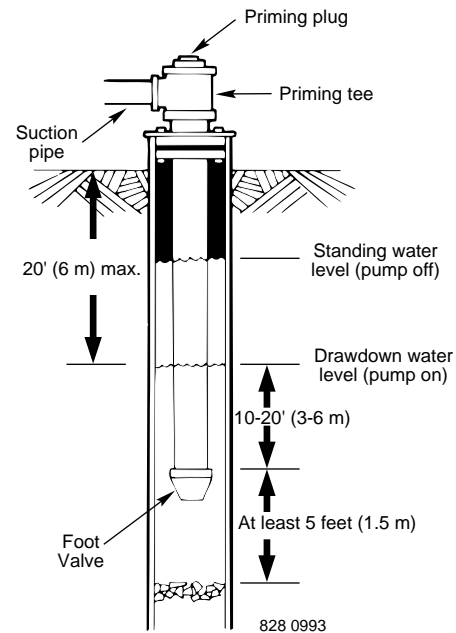
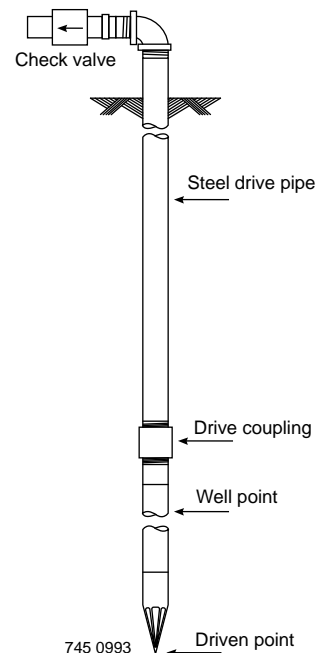

Figure 1 – Cased/Dug Well Installation
Figure 2 – Driven Point Installation
5. When using a foot valve, a priming tee and plug as shown in Figure 1 are recommended.
1. Connect the suction pipe to the drive point as illustrated in Figure 2. Keep horizontal pipe run as short as possible. Use Teflon tape on male pipe threads. Multiple well points may be necessary to provide sufficient water to pump.
2. To aid priming on well point installations, install a line check valve as shown in Figure 2. Be sure check valve flow arrow points toward pump.
NOTICE: For long horizontal pipe runs, install a priming tee between check valve and well head as shown in Figure 1. For driven point installations, install a check valve as shown in Figure 2. Be sure check valve flow arrow points **toward** pump.